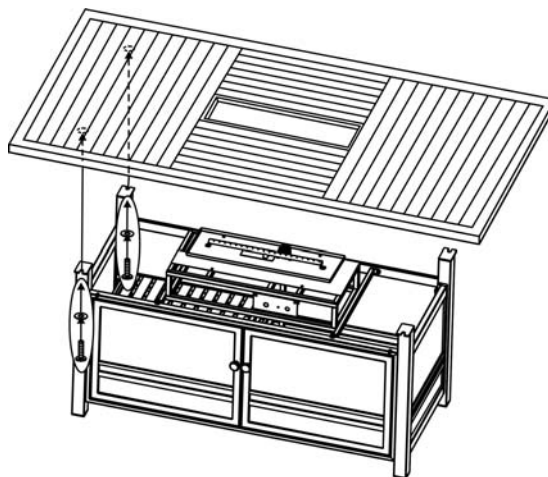

Figure 10
11. With the help of another person, attach the table top to the complete base by using four 1/4"x20 mm bolts and Ø20XØ6.5X2.0 washers as shown in Figure 10. Guide the bolts through the holes in the side panels, into the pre-drilled holes in the table top. Do not tighten completely.